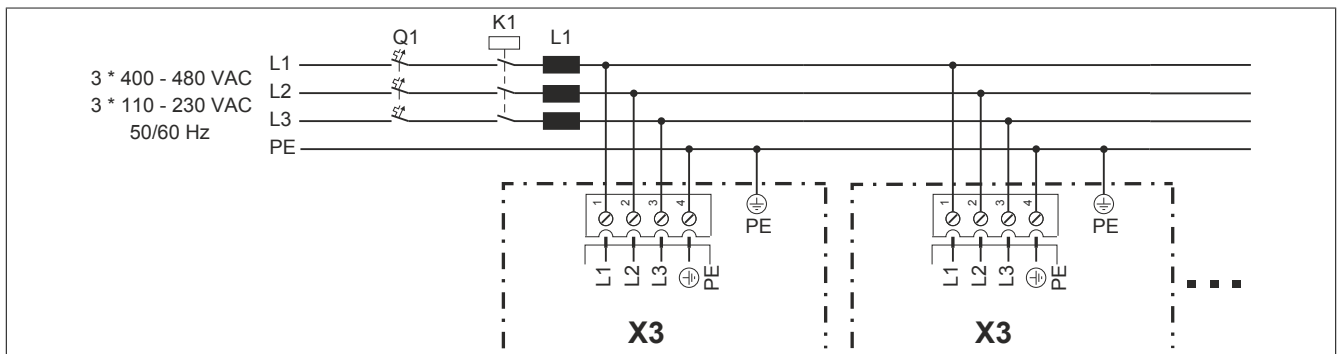

Figure 77: ACOPOS X3, power mains connection for a drive group with optional line choke - Circuit diagram
**For multi-axis configurations, only one line choke and one line contactor are permitted to be connected before the entire ACOPOS servo drive group (see "Figure 77: ACOPOS X3, power mains connection for a drive group with optional line choke - Circuit diagram" on page 209)!**
For multi-axis configurations, only one line choke and one line contactor are permitted to be connected before the entire ACOPOS servo drive group (see "Figure 77: ACOPOS X3, power mains connection for a drive group with optional line choke - Circuit diagram" on page 209)!